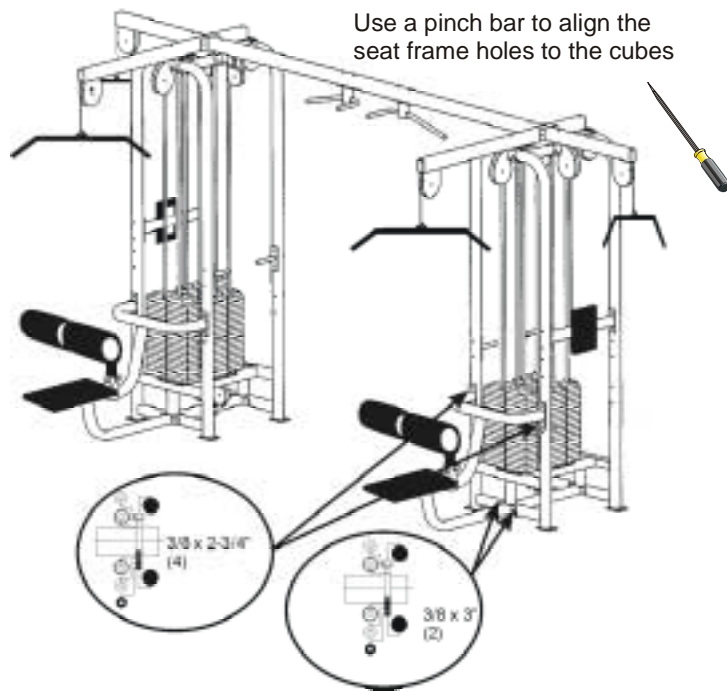

Figure 13. Mount the benches to the frame.
8. Mount the seated row and lat benches to the frame. Using the bolts specified in Figure 13 and a 9/16" socket and combination wrenches, mount the benches as shown in Figures 13 and 14.